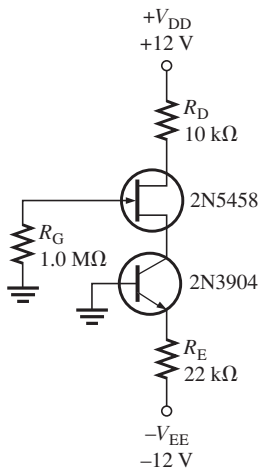

FIGURE 4-79
15. Find I_D and V_D for the current-source biased JFET in Figure 4-79.